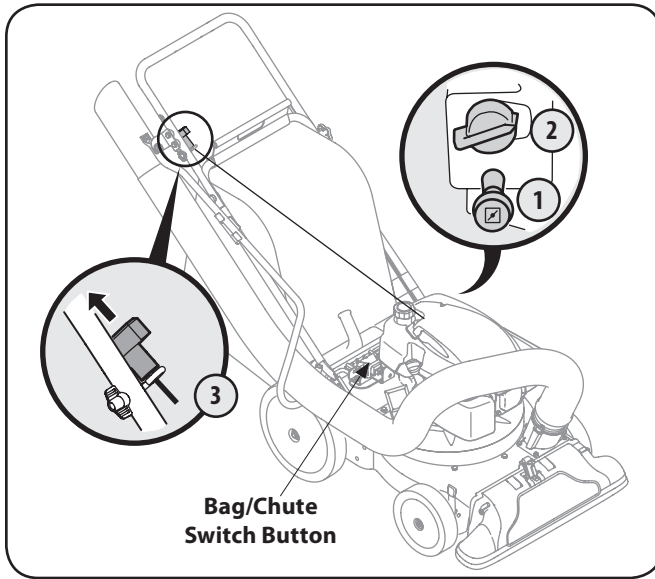

Figure 5-1
1. Pull out the choke knob located on the engine. See Fig. 5-1 inset.
2. Turn the engine switch to on. See Fig. 5-1 inset.
3. Make certain the bag/chute switch button is fully depressed. Pull the starter grip lightly until resistance is felt, then pull rapidly to overcome compression, prevent kickback and start the engine. See Fig. 5-1. If engine does not start after ten seconds of repeated pulls, wait a few minutes and repeat.